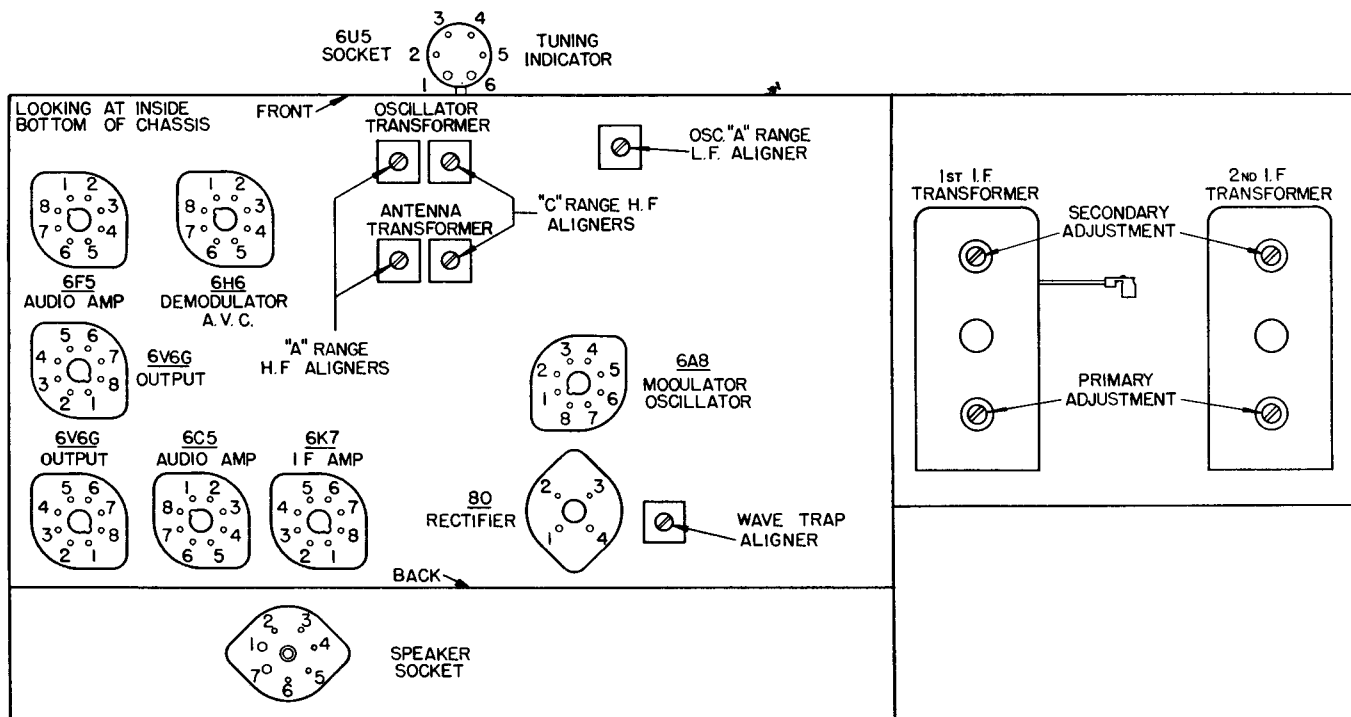

Fig. 1. Terminal Layout for Voltage Measurement Chart and Location of the Aligning Capacitors.
The values of voltages listed in the following table are obtained by measuring between the various tube socket contacts and the chassis base, with the tubes in their respective sockets. The receiver is, therefore, in full operation when the measurements are made. Figure 1, shows the terminal layout of the sockets with the proper terminal numbers.
In making any alignment adjustments, always adjust the test oscillator's output voltage to the minimum value where a good alignment may still be obtained. Never attempt to make any alignment adjustments using a strong signal. Before proceeding with the alignment of any circuits in these receivers be sure that the "Off-On-Tone" control knob is set for maximum treble response (position where knob is rotated from its maximum counter-clockwise position, slightly clockwise to position where set turns "on"), and that the slotted shaft of the electric tuning set-up switch, located on the rear of the chassis base, points in the direction of the word "Set-Up". When the aligning adjustments have been completed the slotted shaft of the electric tuning set-up switch should be rotated so that the slot points in the direction of the word, "Operate". Figure 1, shows the location of all the aligning capacitors in these receivers.
3. Now, noting from Figure 1, the aligning capacitors for the first and second I. F. transformers, align the I. F. circuits in the following manner: